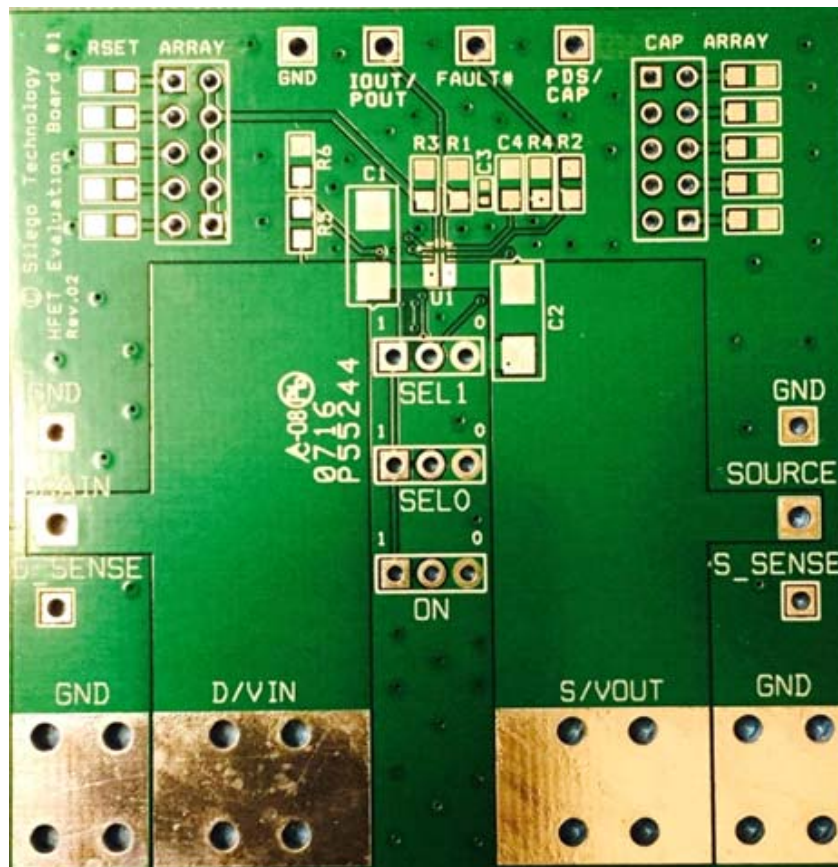

Figure 10. SLG59H1120V Evaluation Board
1. Since the VIN and VOUT pins dissipate most of the heat generated during high-load current operation, it is highly recommended to make power traces as short, direct, and wide as possible. A good practice is to make power traces with an absolute minimum widths of 15 mils (0.381 mm) per Ampere. A representative layout, shown in Figure 10, illustrates proper techniques for heat to transfer as efficiently as possible out of the device;
A HFET1 Evaluation Board for SLG59H1120V is designed according to the statements above and is illustrated on Figure 10. Please note that evaluation board has D_Sense and S_Sense pads. They cannot carry high currents and dedicated only for $R_{DS(ON)}$ evaluation.